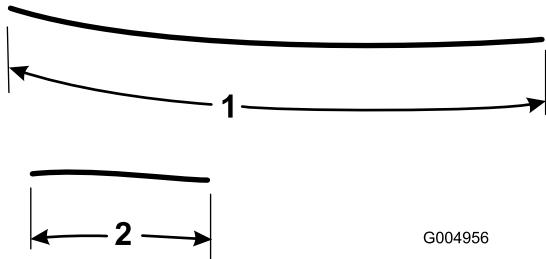

Figure 13
- From the remaining piece of hose cut 2 lengths of hose, 55 inches (140 cm) and 22-1/2 inches (57 cm) (Figure 13). Discard any remaining hose. These will be used to complete the traction unit connections.